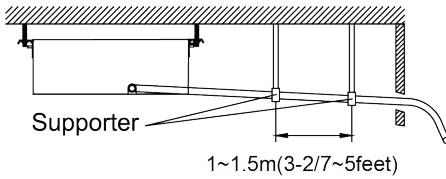

Fig. 4.22
- (3). When the hose is long, install supporters (Fig. 4.22).
- (4). Always use the drain hose which has been insulated properly.